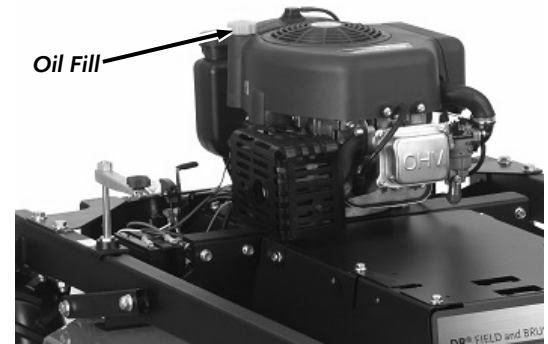

Figure 30a
1. Remove the Oil Fill Cap/Dipstick (**Figure 30a**).